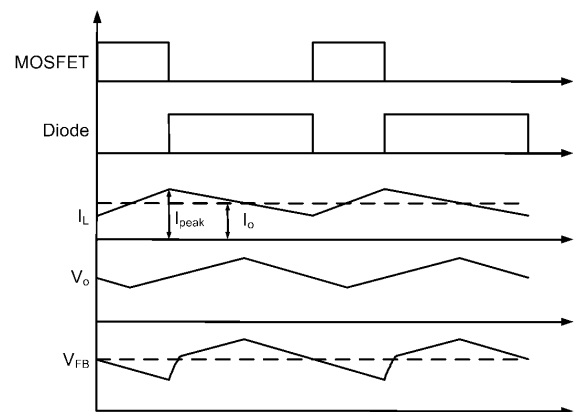

Figure 3: Constant Voltage Regulation
The MP161 integrates a 700V switching regulator that regulates the output voltage by detecting the feedback (FB). The internal MOSFET is turned on when the FB voltage (V_{FB}) is lower than the reference voltage (V_{REF}) and is turned off based on the peak-current limitation (see Figure 3). In this way, V_{FB} is regulated at V_{REF} . The output voltage is determined in Equation (1):